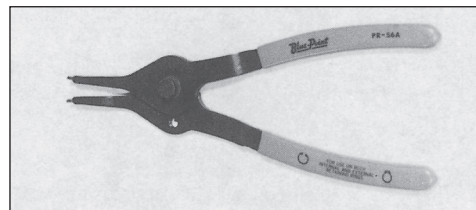
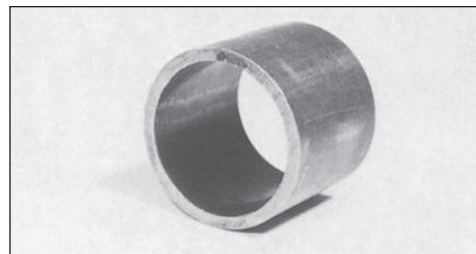

Figure 10-3
Figure 10-4
**Snap Ring Pliers** (figure 10-3) – The PMG rotor is installed to the generator shaft with a snap ring. The nominal shaft diameter is 2-3/4 inches and the ring must be spread approximately 3/4 inches for removal. To install the snap ring, use a piece of pipe with a 2-3/4 inch ID (figure 10-4). Push the PMG rotor and snap ring onto the shaft until the ring snaps into the groove.